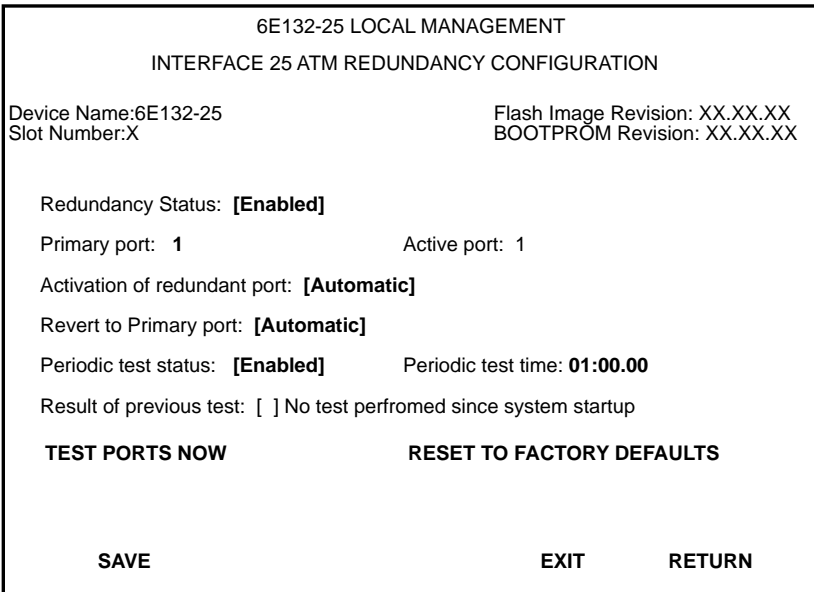

Figure 3-6 The ATM Redundancy Configuration Screen
2. Press ENTER. The ATM Redundancy Configuration screen, Figure 3-6, displays.